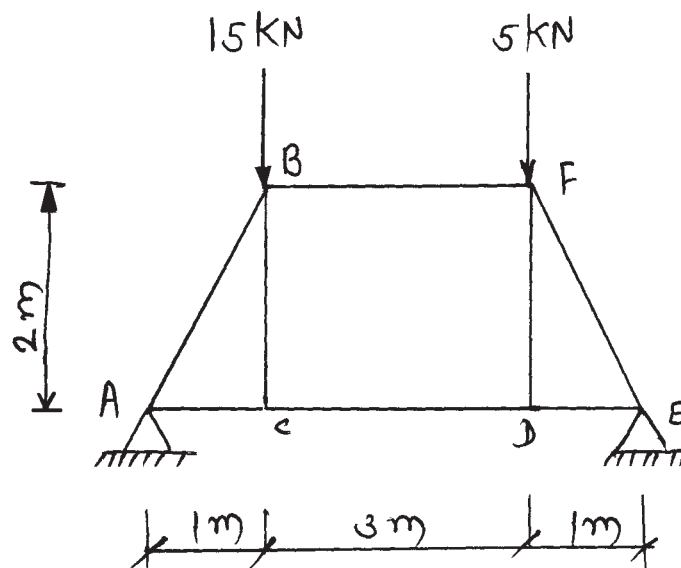

Fig. No. 2
- Find the forces in all the members of the truss as shown by using method of joints. Refer Figure No. 2.